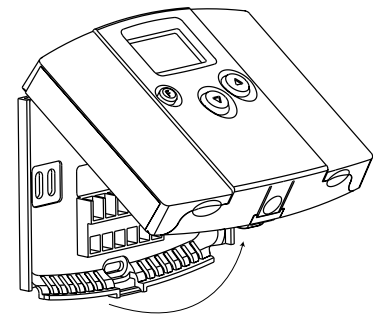

Figure 2
- Remove the wallplate from your thermostat by pressing the release tab on the bottom of the thermostat. See Figure 2.
- Insert the tabs on top of the thermostat body into the slots at the top of the wallplate. Press the bottom of the thermostat body into the snap on the bottom of the wallplate. Refer to Figure 2. (NOTE: Do not force the thermostat onto the wallplate, as the terminal pins may be damaged. If it does not snap properly, the thermostat may not work.)